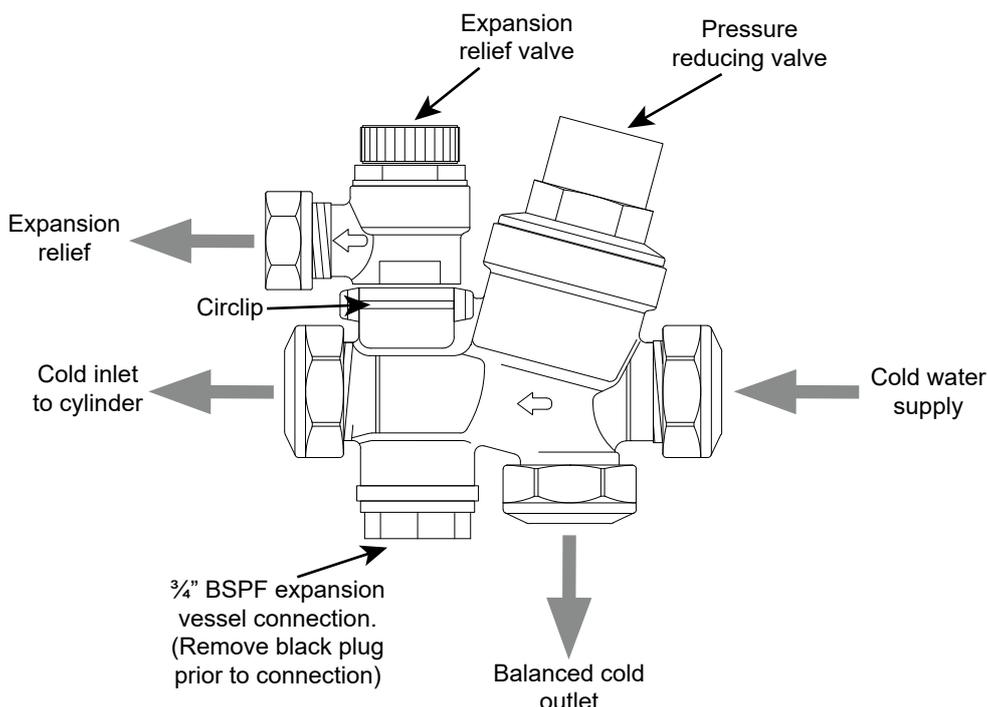

Figure 4-1: Cold water inlet manifold
A balanced cold water connection is provided on the inlet manifold. Refer to Figure 4-1. This should only be used to provide balanced cold supplies to shower valves and mixer taps. If the balanced cold water outlet is not required, blank off this port.
6. Connect the expansion vessel directly to the ¼" BSPF connection in the inlet valve manifold body, after removing the black plastic plug. See Figure 4-1 and Section 4.4.
A 3/4" BSPF connection is provided on the supplied cold water inlet manifold, for the purpose of expansion vessel connection. Refer to Section 4.3 and Figure 4-1.